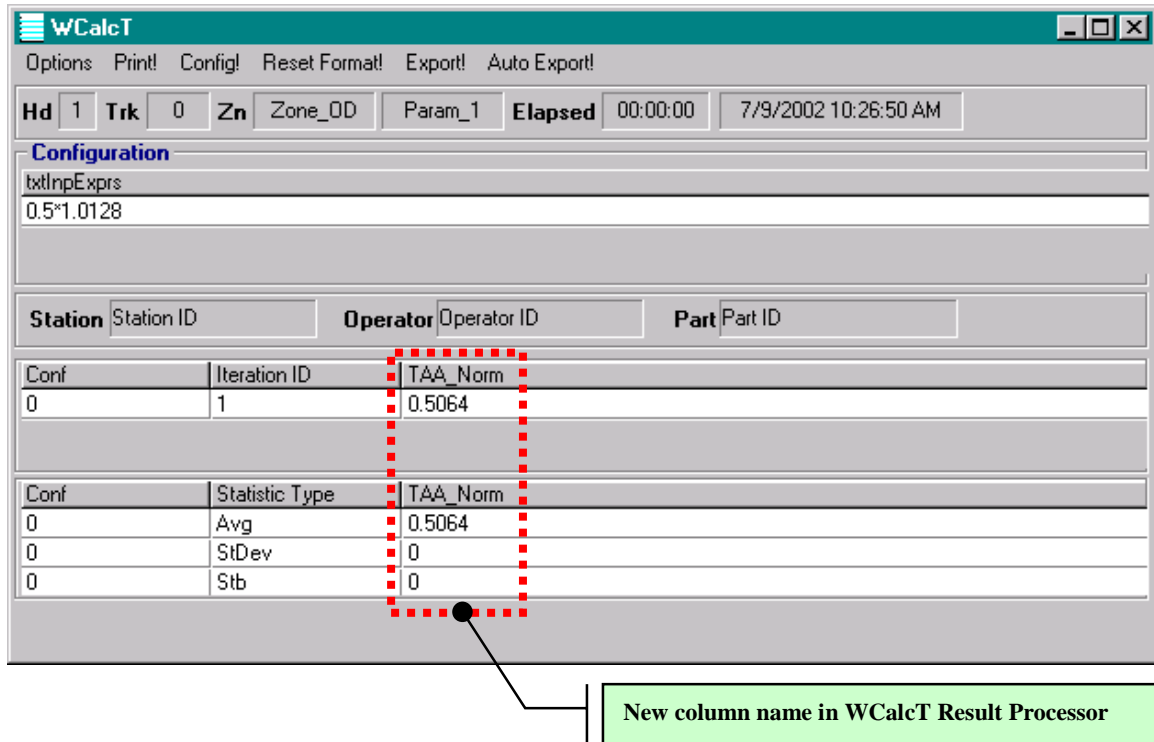

Figure 5: Result Processor with Changed Column Name
4. Restart WITE32 to activate the new result names. Now, the Result Processor will display a column with the new name instead of a default one (see Figure 5).